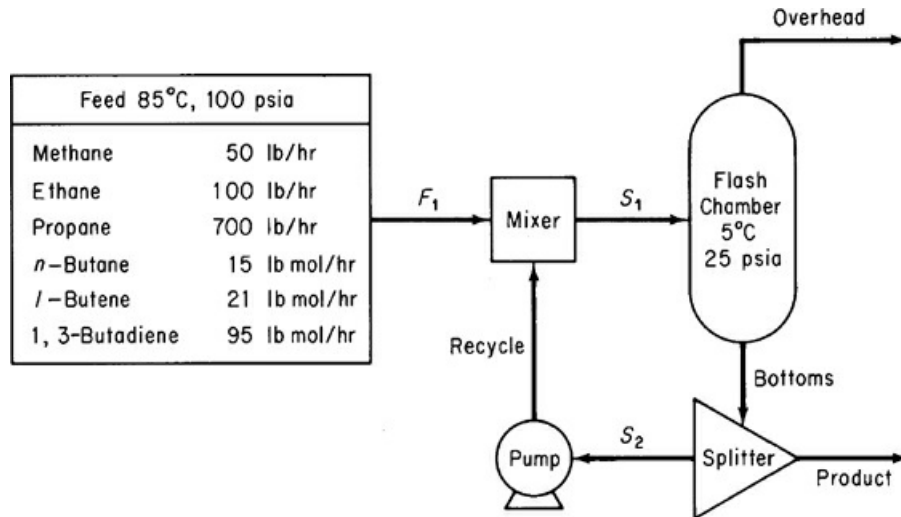

Figure P14.13
14.13 A gas feed mixture at 85°C and 100 psia having the composition shown in Figure P14.13 is flashed to separate the majority of the light from the heavy components. The flash chamber operates at 5°C and 25 psia. To improve the separation process, it has been suggested to introduce a recycle as shown in Figure P14.13. Will a significant improvement be made by adding a 25% recycle of the bottoms? 50%? With the aid of a computer process simulator, determine the molar flow rates of the streams for each of the three cases.